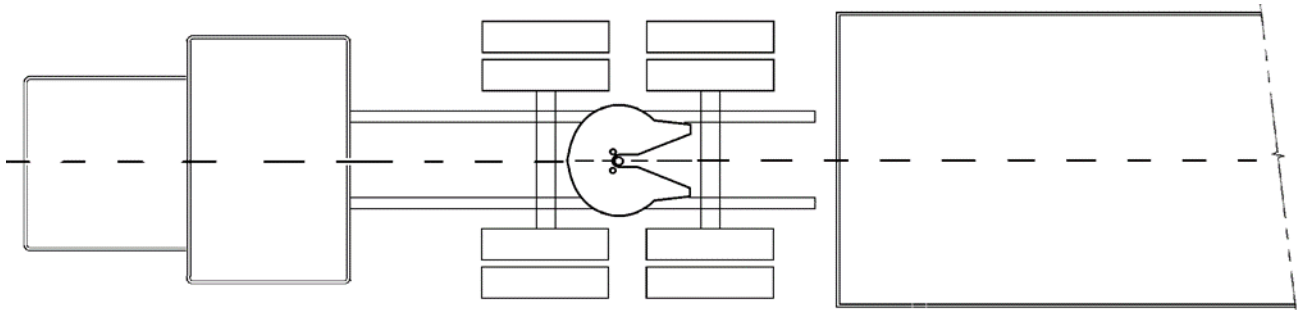

Figure 3-2 Align Truck with Trailer for Coupling
2. Place the truck directly in front of the trailer. See figure 3-2. **NEVER** back under the trailer at an angle.